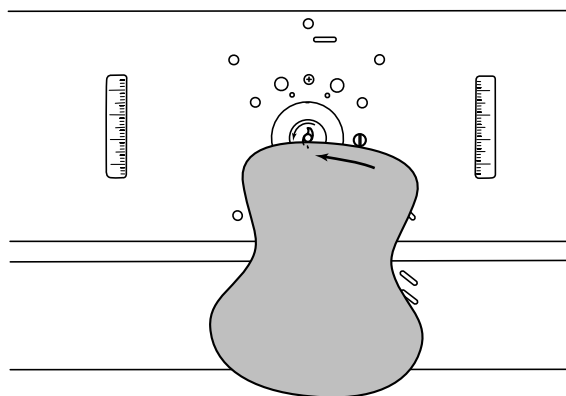

Figure 41
3. Drawing the workpiece along the starting pin (from right to left, in front of the router), feed it through the bit, at the same time pressing it against the ball-bearing guide until the cut is complete. See Figure 41.
4. When the cut is complete, move the workpiece away from the bit, at the same time keeping it in contact with the starting pin, until it clears the router bit completely. See Figure 41.